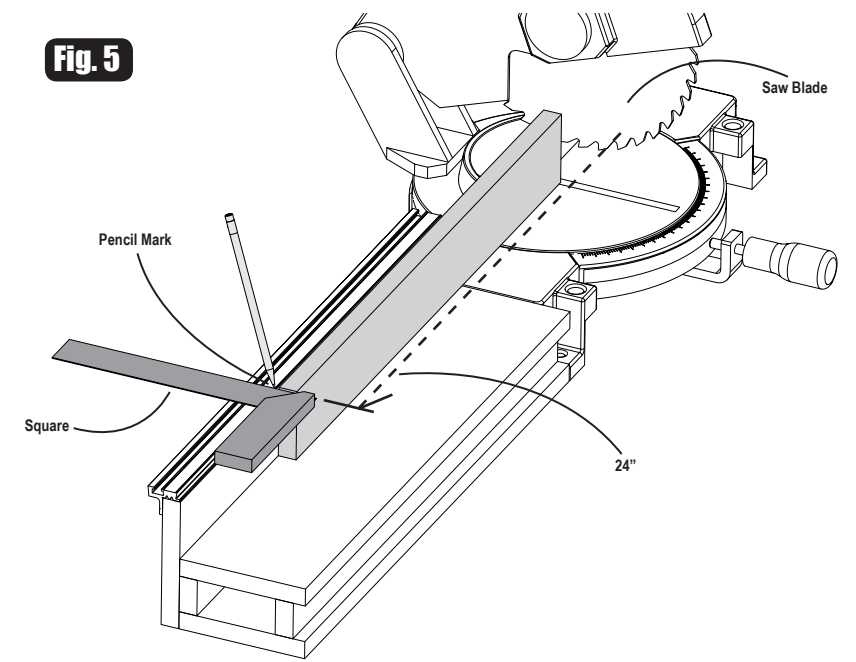

Fig. 5
2. Place a square against the other end of the board and use a pencil to make a mark across both raised edges of the shallow channel on the top edge of the Trak, as shown on Figure 5.